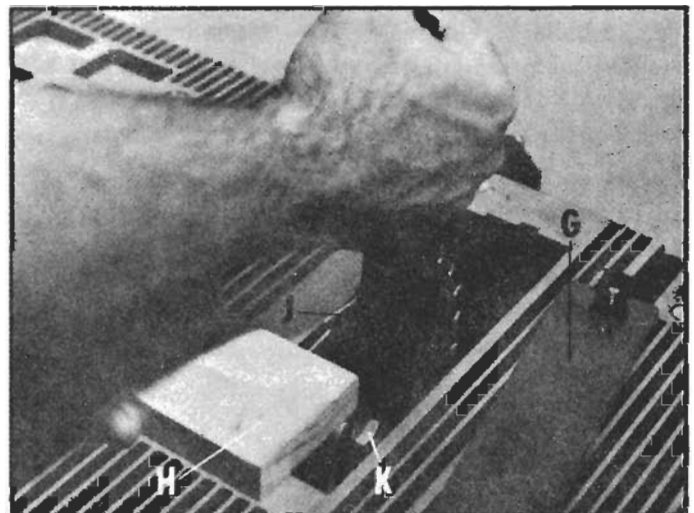

Fig. 33
2. Remove table insert (G) Fig. 33.
3. Place a block of wood (H) Fig. 33 on table in front of saw blade making sure teeth of saw blade come into contact with the block of wood as shown.
4. Place arbor wrench (J) Fig. 33 on arbor nut (K) and turn arbor nut toward you to loosen. Remove arbor nut, flange and blade.